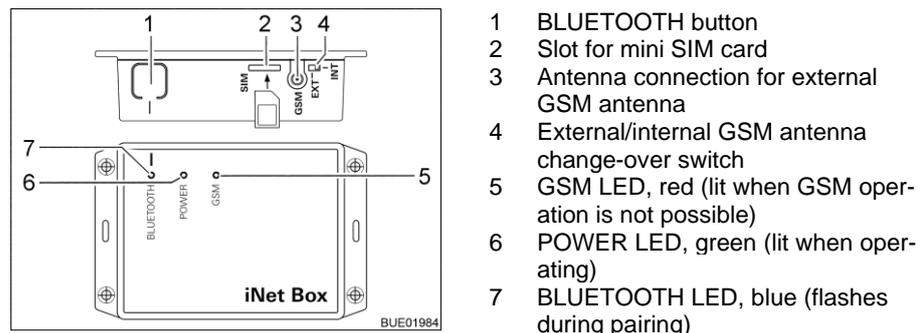

Fig. 178 Truma iNet-Box
- Press the BLUETOOTH button (Fig. 178,1) on the iNet-Box for 1 second. The Truma iNet-Box will be visible in the mobile terminal for approx. 2 minutes (name: "Truma iNet-Box"). During this period, the blue BLUETOOTH LED (Fig. 178,7) will be flashing.
- Carefully insert the mini SIM card with own telephone number and sufficient credit into the slot (Fig. 178,2) of the Truma iNet-Box as shown until it engages. The red GSM LED (Fig. 178,5) must be flashing continuously. If the red LED goes out after 20 seconds: Check mini SIM card.